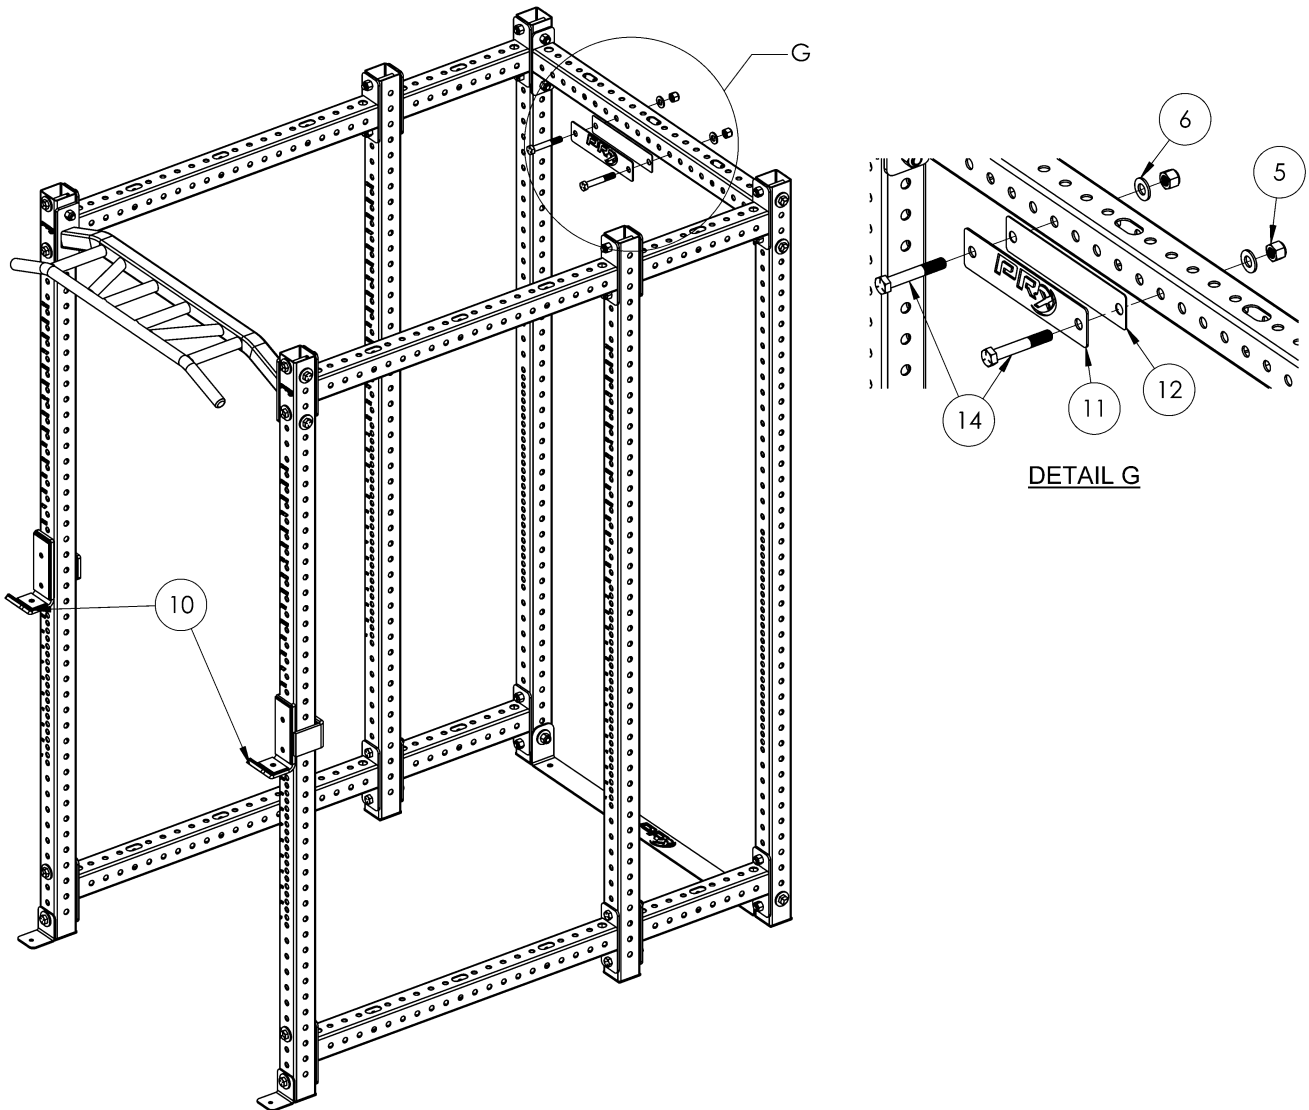

Figure 4
1. Attach PRx Logo Plate (11) and Backer Plate (12) with hardware shown. **Figure 4, Detail G**
2. Attach J-Cups (10) onto your uprights.